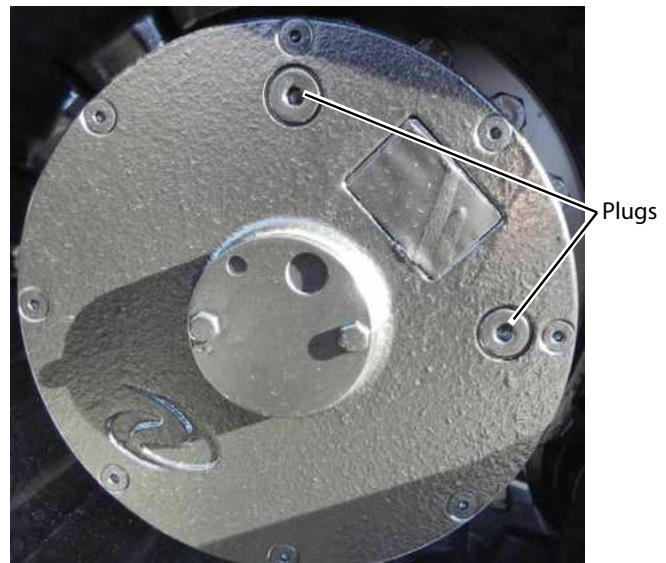

Figure 5-5. Torque Hub Plugs
1. Remove the plug in the 3 o'clock position. **(Figure 5-5)**